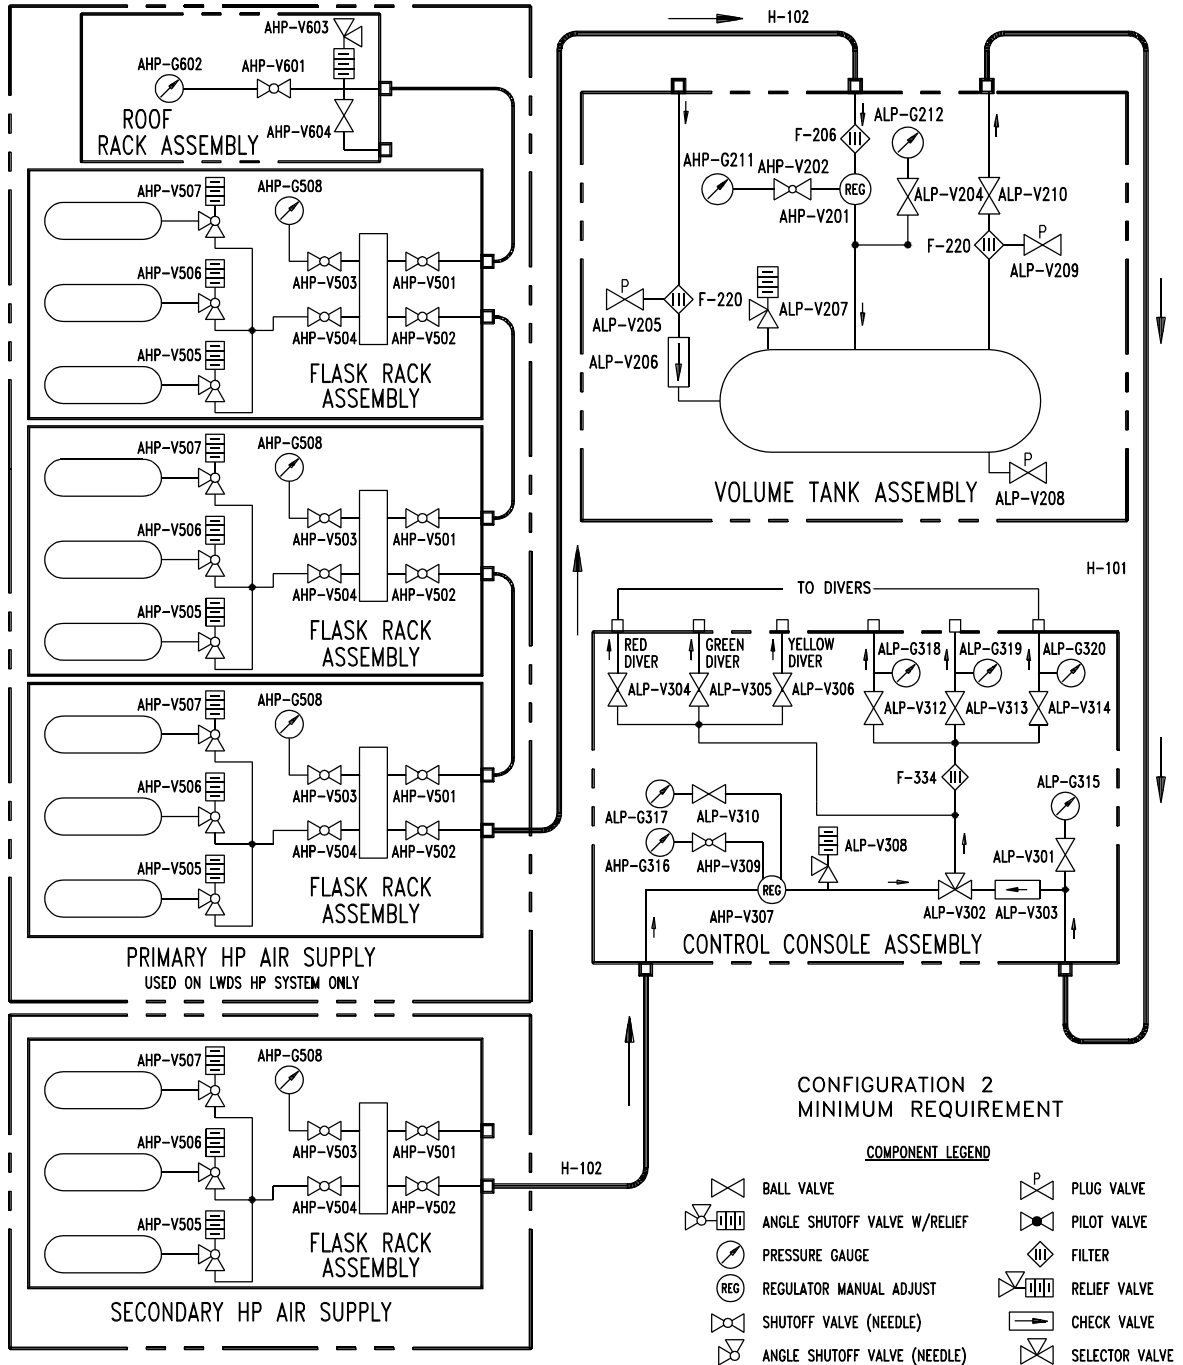
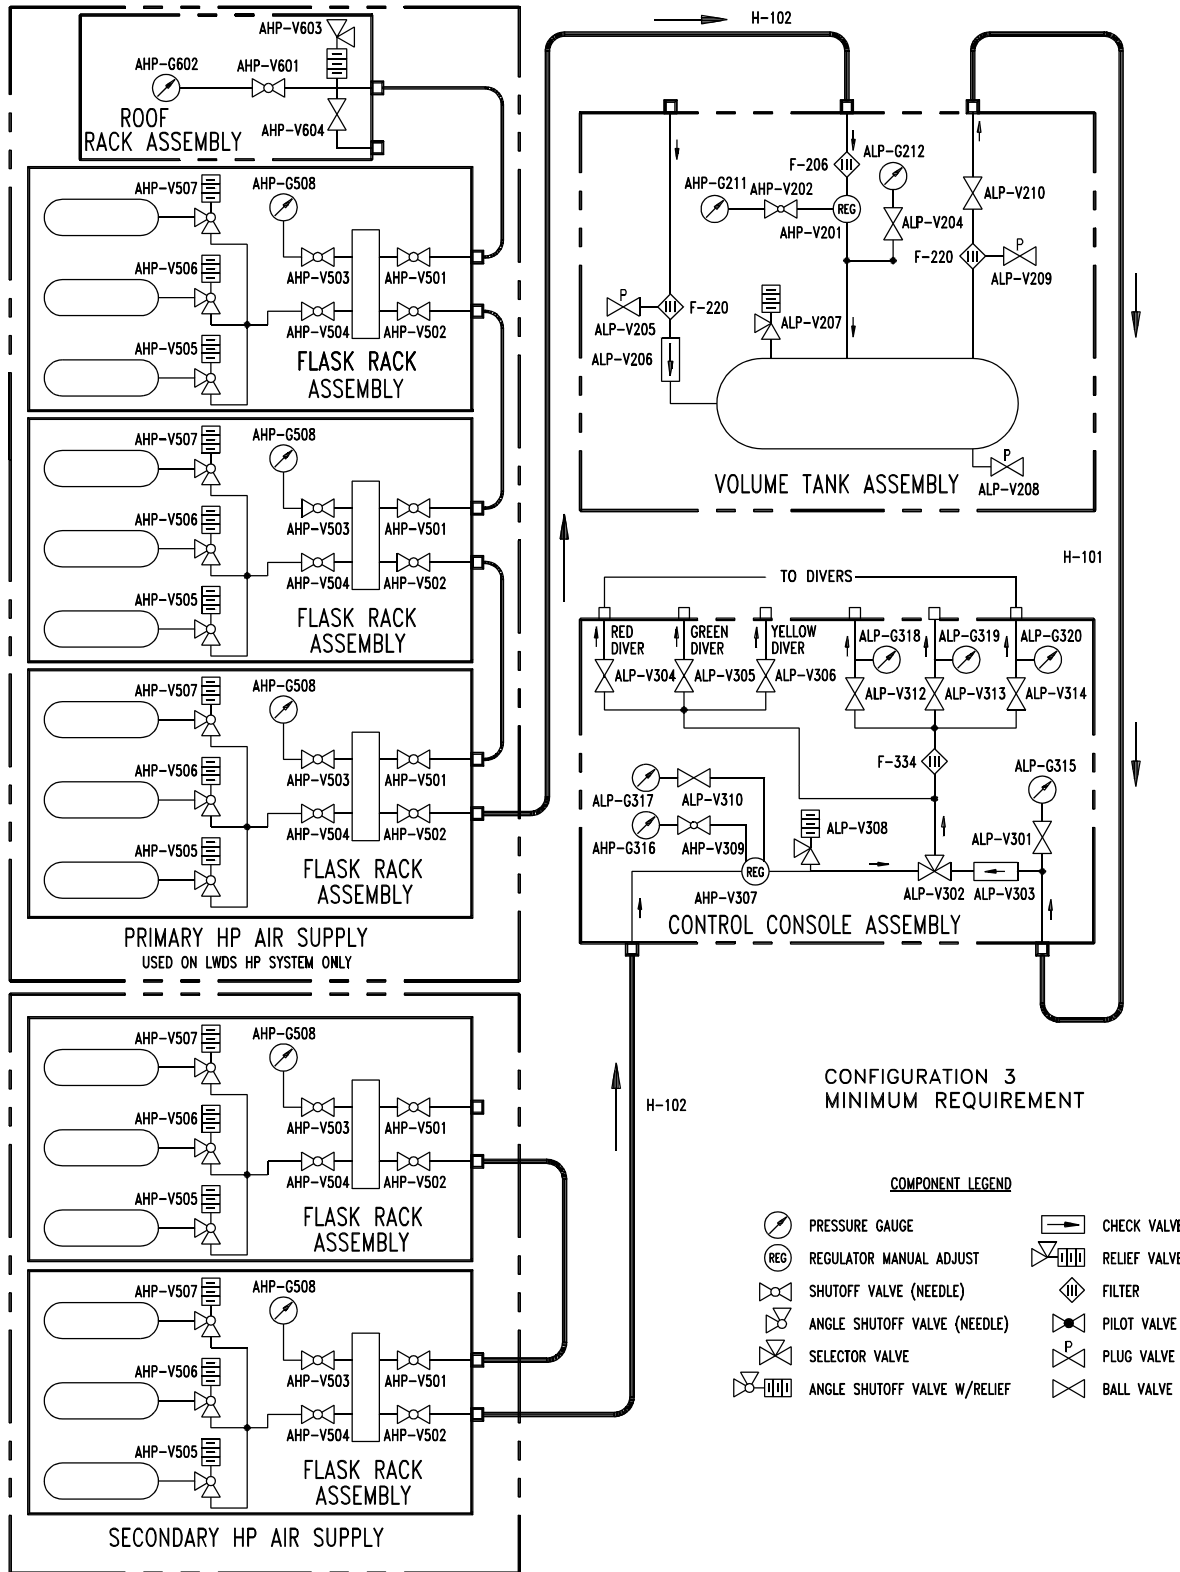
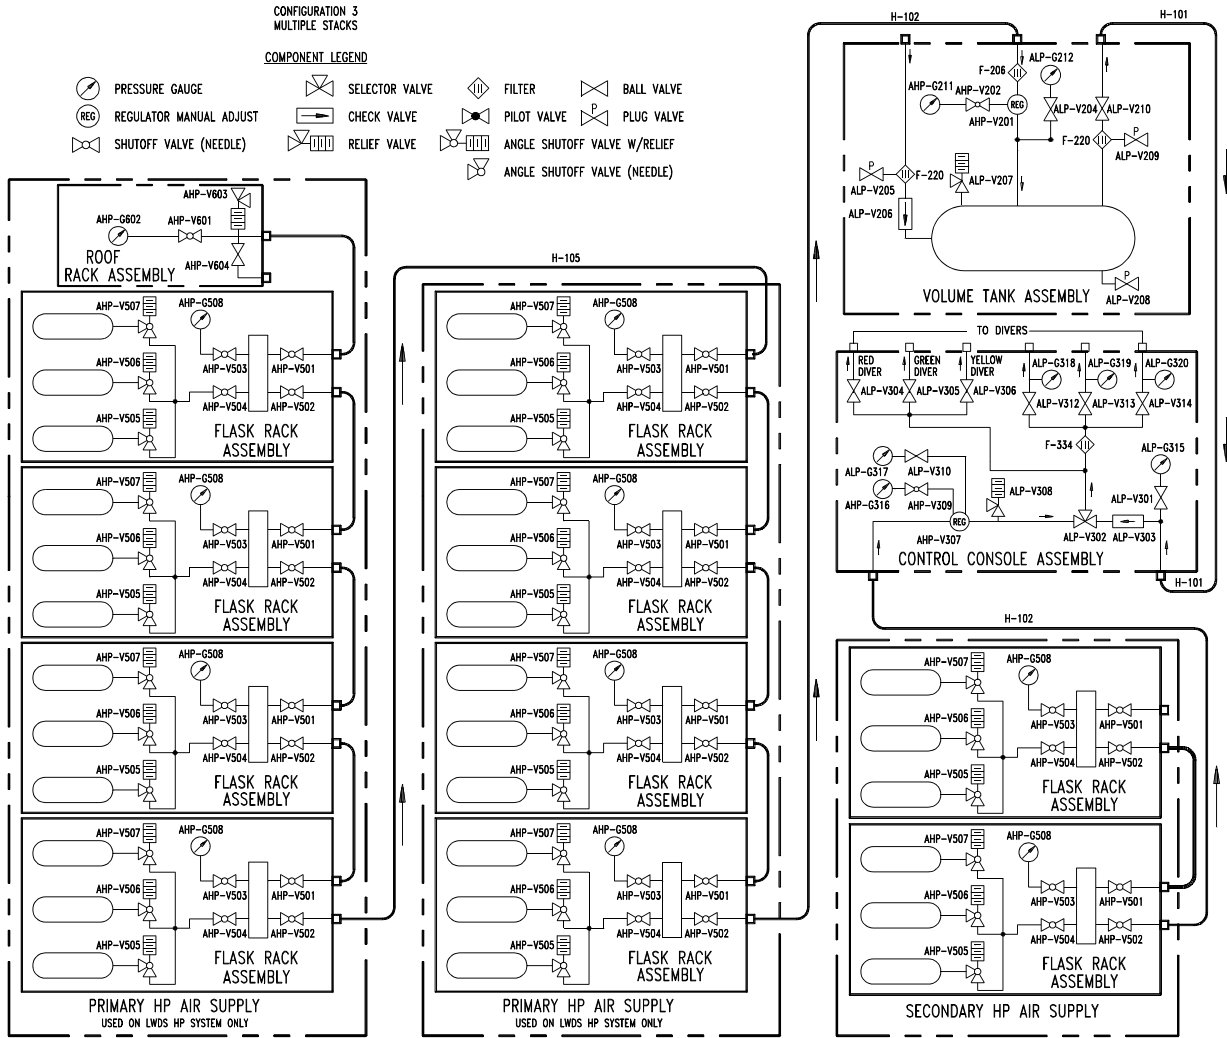

Figure 3-2. LWDS MK 3 Mod 0 Functional Diagram, Configuration 2
Figure 3-3. LWDS MK 3 Mod 0 Functional Diagram, Configuration 3
Figure 3-4. LWDS MK 3 Mod 0 Functional Diagram, Multiple Stacks of Flask Racks, Configuration 3
The LWDS uses one of three equipment configurations to provide breathing air to two working divers (and one standby diver) operating at a moderately heavy work rate to a maximum dive depth of 60 feet of seawater (fsw) with Configuration 1, 130 fsw with Configuration 2, and 190 fsw with Configuration 3. Paragraph 3.2.1 describes how primary air is supplied in each configuration. A secondary (emergency) high pressure (HP) air supply (paragraph 3.2.2) is available in all three configurations should component failure occur upstream from the control console assembly and cause loss of the primary air supply. Functional diagrams showing the complete flow of primary and secondary air as supplied by the LWDS in Configurations 1, 2, and 3 are provided as Figures 3-1, 3-2, and 3-3, respectively. Figure 3-4 serves as an additional reference for Configuration 3 when multiple stacks of flask racks are required for the dive mission.
3.2.1 PRIMARY AIR SOURCE. Primary air for the LWDS is supplied as low pressure (LP) air from the diesel-compressor assembly (Configuration 1) or as HP air from a minimum of three flask rack assemblies (Configurations 2 and 3). All primary air supply components are interconnected by hose assemblies.
3.2.1.2 Configurations 2 and 3. When the primary HP air supply is used in Configurations 2 and 3, HP air flows directly to the volume tank assembly where it is filtered and then reduced to LP air through a regulator. The LP air is supplied to the divers in the same manner as in Configuration 1. The primary air flow path for Configuration 2 is shown in Figure 3-2. The air flow paths for Configuration 3 are shown in Figure 3-3 (minimum requirements) and Figure 3-4 (multiple stacks of flask racks).
When scheduled dive air requirements exceed the capacity of one stack of flask rack assemblies, the HP air flasks may be recharged, more flask rack assemblies added, or a combination thereof may be used without interruption of the mission. Each stack of flask rack assemblies shall not exceed four high. When multiple stacks are used, the stacks are interconnected (see Figure 3-4) and the roof rack assembly is placed on the last stack.
The Lightweight Dive System (LWDS) MK 3 Mod 0 is a Naval Sea Systems Command (NAVSEA) certified diving life support system and must be maintained in accordance with certification. The scope of certification is defined in detail in NAVSEA T9592-AB-SPN-010, *Specifications for Construction Lightweight Dive System FY 89*. The certification boundaries for Configurations 2 and 3 encompass all the components shown in Figures 3-2 through 3-4, and Figure 4-1 defines the certification boundaries for Configuration 1. Note that the diesel engine (not shown) and the compressor up to the unloader valve are outside the certification boundaries.